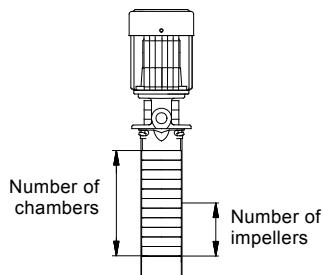

Fig. 2 Number of chambers / impellers
* See fig. 2.
Number of chambers, see fig. 2
Number of impellers, see fig. 2